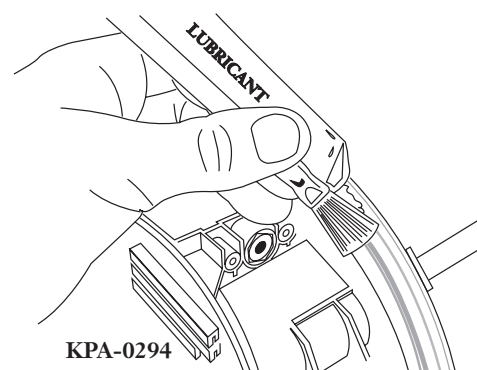

Figure 52 — Lubricate Sealing Ring
- Step 6** Retain a small amount of UCN lubricant for use later. Apply the remaining lubricant to all sides of the sealing ring (Figure 52).